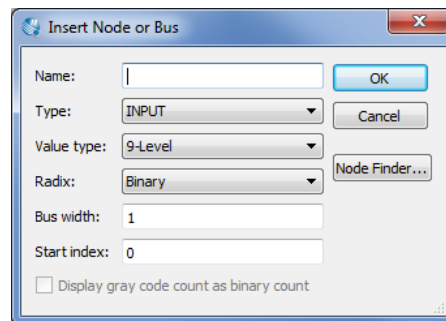
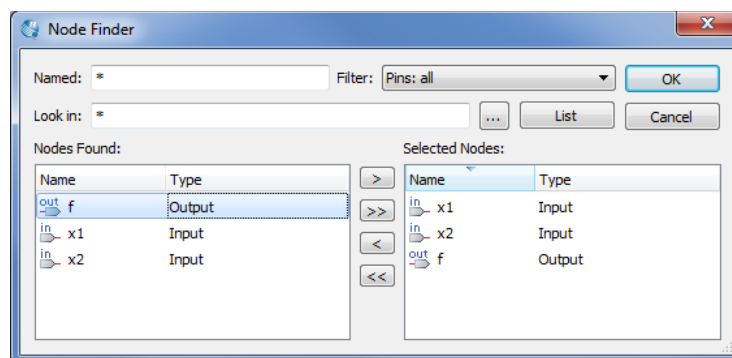
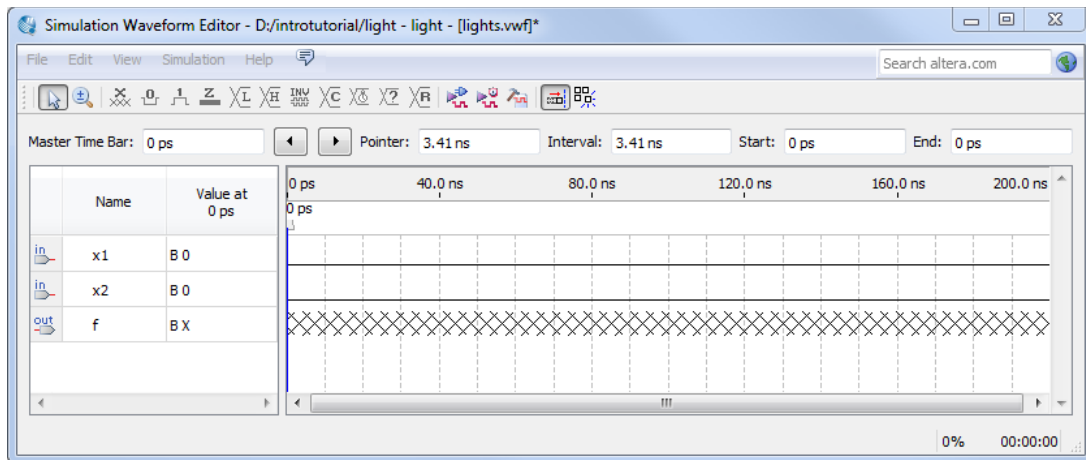

Figure 33. The Insert Node or Bus dialogue.
Figure 34. Selecting nodes to insert into the Waveform Editor.
Figure 35. The nodes needed for simulation.
- Next, we want to include the input and output nodes of the circuit to be simulated. Click **Edit > Insert > Insert Node or Bus** to open the window in Figure 33. It is possible to type the name of a signal (pin) into the Name box, or use the Node Finder to search your project for the signals. Click on the button labeled **Node Finder** to open the window in Figure 34. The Node Finder utility has a filter used to indicate what type of nodes are to be found. Since we are interested in input and output pins, set the filter to **Pins: all**. Click the **List** button to find the input and output nodes as indicated on the left side of the figure.
Click on the  $x1$  signal in the Nodes Found box in Figure 34, and then click the > sign to add it to the Selected Nodes box on the right side of the figure. Do the same for  $x2$  and  $f$ . Click OK to close the Node Finder window, and then click OK in the window of Figure 33. This leaves a fully displayed Waveform Editor window, as shown in Figure 35. If you did not select the nodes in the same order as displayed in Figure 35, it is possible to rearrange them. To move a waveform up or down in the Waveform Editor window, click within the node's row (i.e. on its name, icon, or value) and drag it up or down in the Waveform Editor.